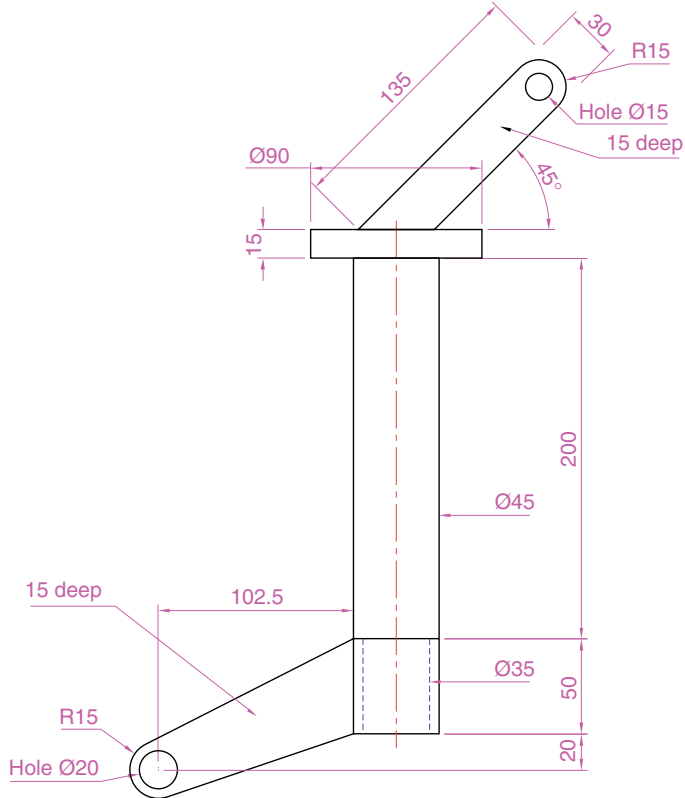

Fig. 20.18 Exercise 3
3. A partial front view of a stand is shown by an isometric drawing (Fig. 20.17). From the details given in the drawing in Fig. 20.18, construct a 3D model drawing of the stand.